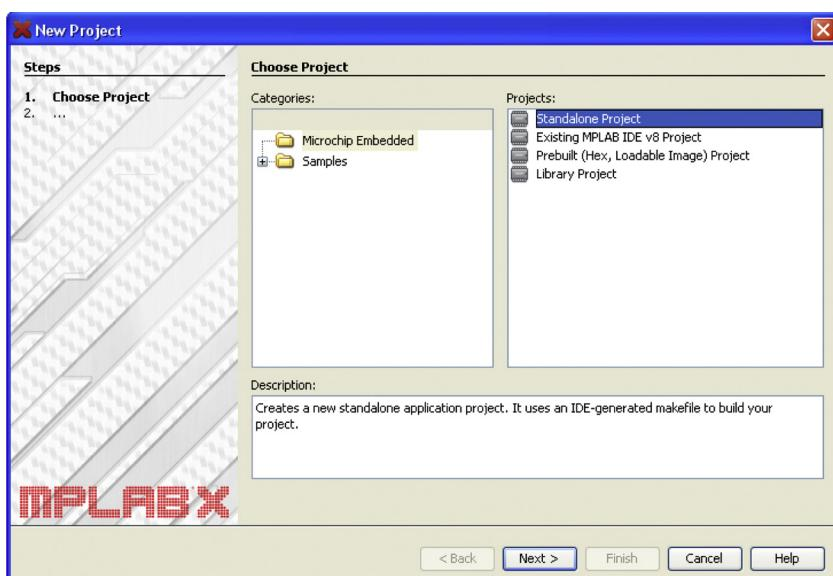

FIGURE 2.27 Choosing the project.
1. A project wizard will open to help walk you through the creation of your project. Select “Microchip Embedded” from **Categories** and “Standalone Project” from **Projects**. Click **Next** (Figure 2.27).